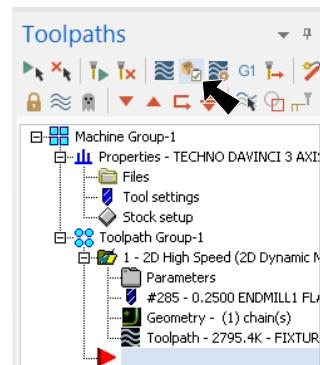
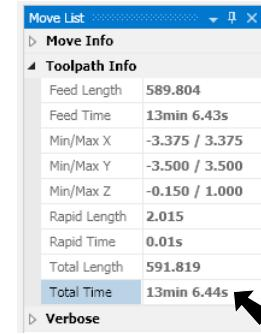

Fig. 55
Fig. 56
Step 1. Click **Verify**  in the Toolpaths Manager, Fig. 55.
Step 2. Click **Play**  (R) in VCR bar along bottom of window.
Step 3. Note **Total Time** to run program under Toolpath Info in the Move List panel (**roughly 13 minutes**), Fig. 56.